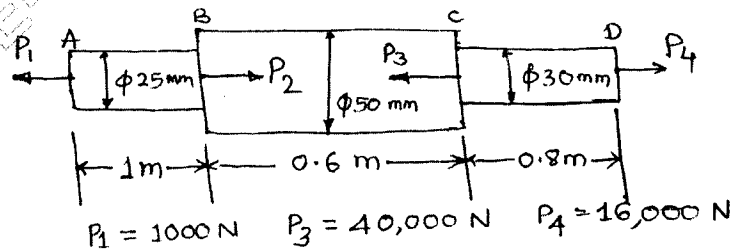

Fig. Q1 (c)
c. A member is subjected to point loads as shown in Fig. Q1 (c). Calculate P_2 necessary for equilibrium. Take $E = 2.05 \times 10^5 \text{ N/mm}^2$. (10 Marks)